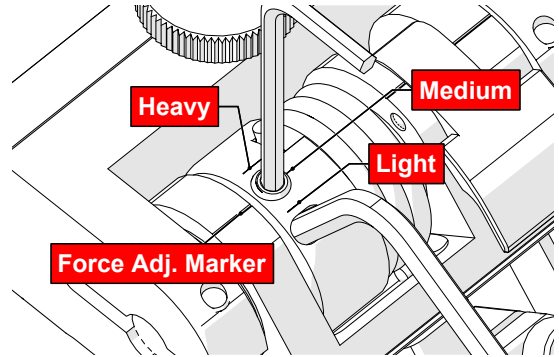

Fig. 203 - Choose desired tension
- Gently apply pressure on the long leg of the 3 mm hex wrench until the force adjustment marker lines up with the desired spring tension. While keeping the markers in line, tighten the force adjustment screw (Fig. 203).